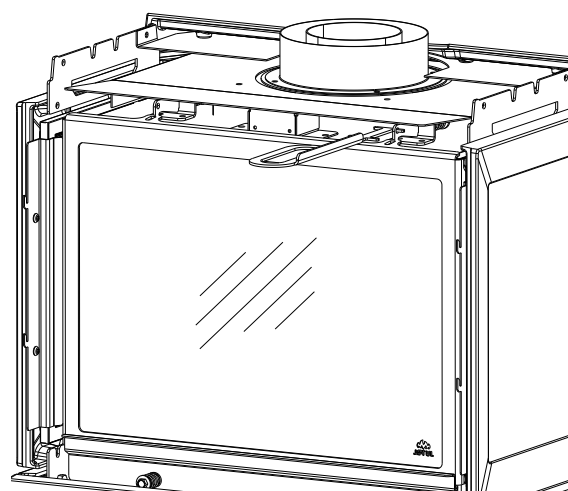

Figure 2.2 Disengage the glass frame latches to open the firebox.
- Remove the Latch Tool from the shipping pallet and use it to remove the Glass Panel by pulling the two latch hooks out to disengage them from the glass frame. Fig. 2.2.